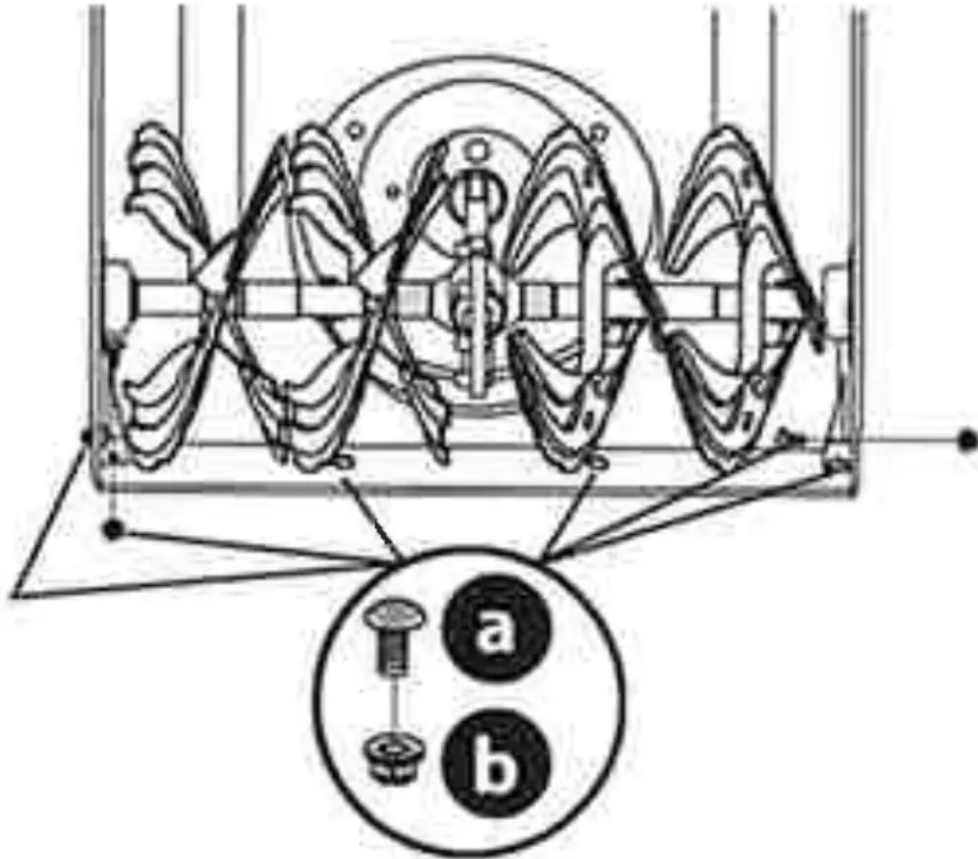

Figure 77
3. Remove carriage bolts(a) and hex nuts (b) which attach it to auger housing (Figure 77).
4. Reassemble new shave plate, making sure heads of carriage bolts are to the inside of housing. Tighten securely (Figure 77).